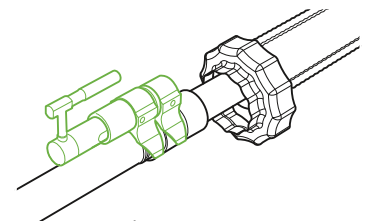

Fig. B10.2.8
9. Operate the pump to press the outer sleeve until it is snug with the inner coupler (Fig. B10.2.8).